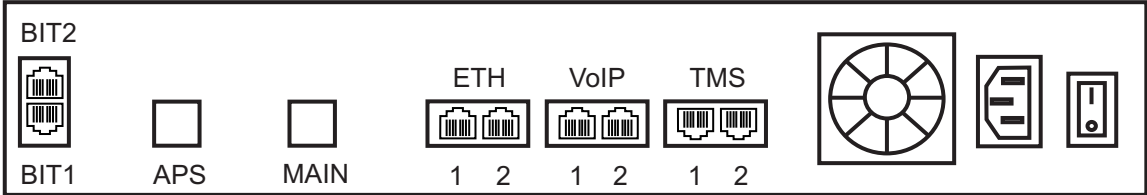

Figure 2.7 Optical Interface to the PSTN
A TMG3200, with one main and one backup OC3 or STM-1 port enables connection to OC3/STM-1 lines. See figure 2.7 on page 17. Refer to table 2.2 on page 17 for a listing of optical interfaces. The default OC3/STM-1 connection is SMF, intermediate reach, (SFP-OC3-IR1) 1310 nm with LC type connectors.
1. Connect a fiber optic cable between the Main port and OC3/STM-1 line, as shown in figure 2.7 on page 17.